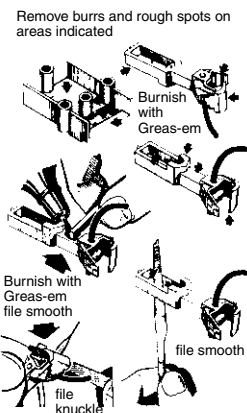

FIG. 2
1. Remove any flash and rough spots & burnish the "arrow" marked surfaces shown in Fig. 2 with Kadee® #231 Greas-em to ensure trouble-free coupler performance.